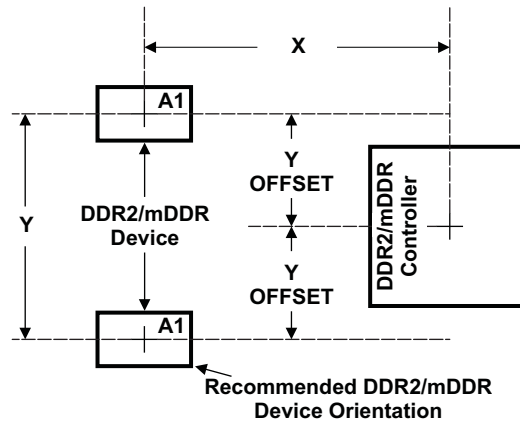

Figure 6-20. C6742 and DDR2/mDDR Device Placement
Figure 6-19 shows the required placement for the device as well as the DDR2/mDDR devices. The dimensions for Figure 6-20 are defined in Table 6-28. The placement does not restrict the side of the PCB that the devices are mounted on. The ultimate purpose of the placement is to limit the maximum trace lengths and allow for proper routing space. For single-memory DDR2/mDDR systems, the second DDR2/mDDR device is omitted from the placement.
- (1) See Figure 6-20 for dimension definitions.
- (2) Measurements from center of device to center of DDR2/mDDR device.
- (3) For single memory systems it is recommended that Y Offset be as small as possible.
- (4) Non-DDR2/mDDR signals allowed within DDR2/mDDR keepout region provided they are separated from DDR2/mDDR routing layers by a ground plane.
- (5) w = PCB trace width as defined in Table 6-27.